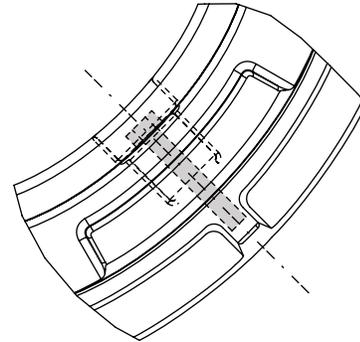

Figure 13: Snow Plow Ring Bolt Location
16. Pour concrete around the Defender Series™ spill container, making sure to dome the concrete at least 1" (2.54 cm) to allow for adequate runoff. The sloping of the concrete should begin at the outer edge of the concrete ring tabs (Figure 13). Keep the snow plow ring and cover clean and free of any concrete splatter (the snow plow ring must be able to be removed if service is needed).